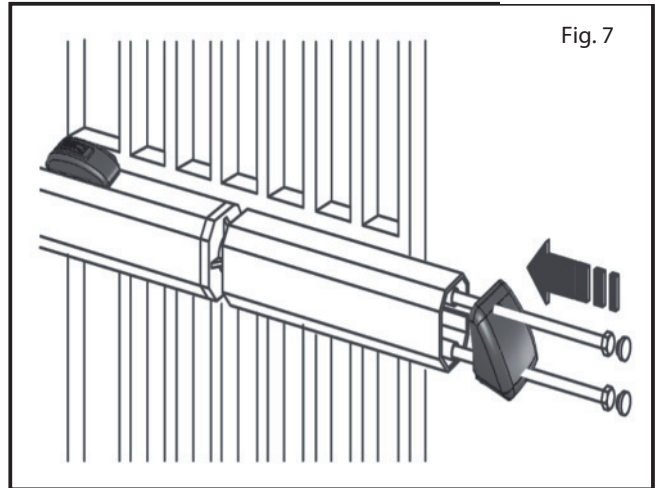

Fig. 7
N) Attach the cover rod hydraulic operator (Fig. 7);